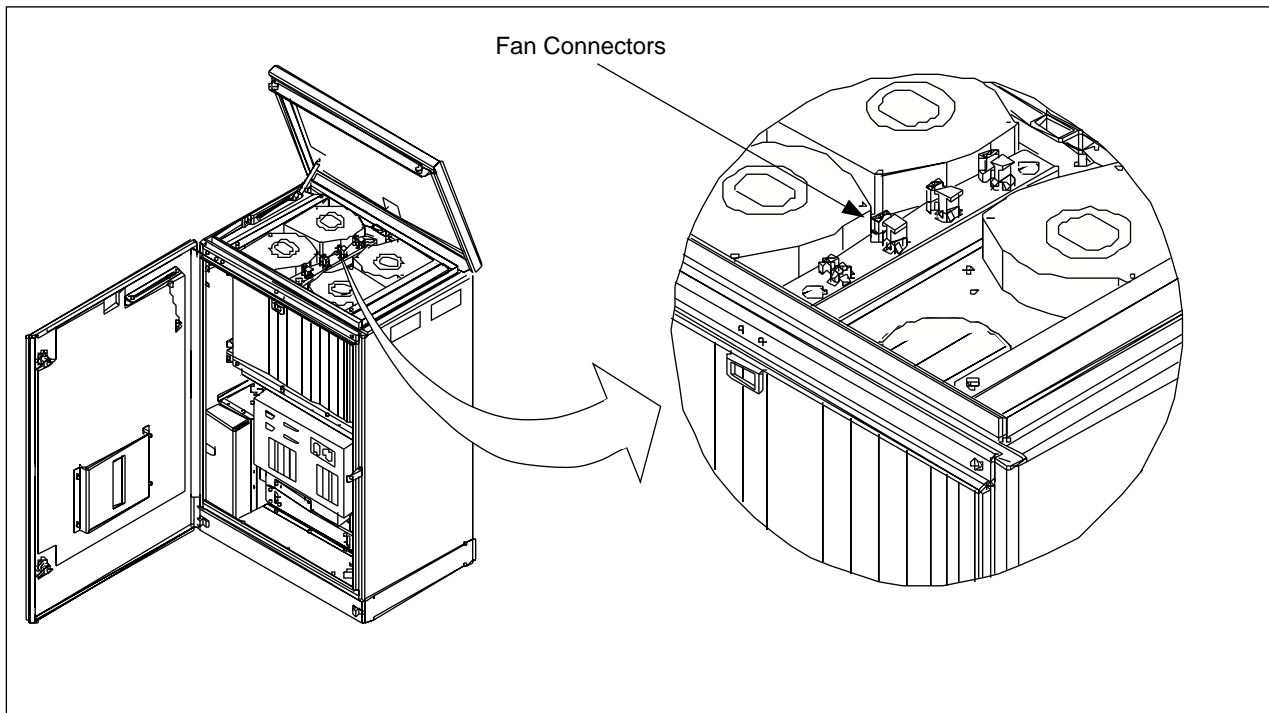

Figure 5-19. The Fan Unit
7. Disconnect the three-wire connector. See Figure 5-19 on page 5-40.